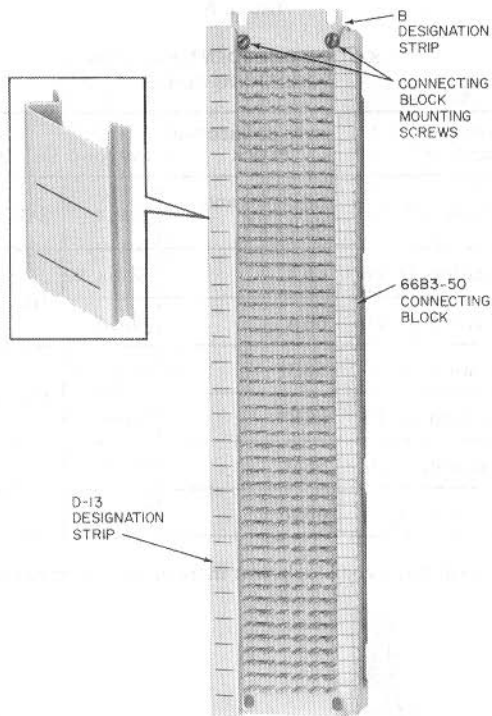

Fig. 18—Designation Strips
**6.01** The B designation strip is designed to mark 66B3-50 and 66B4-25 connecting blocks (Fig. 18).
**6.07** The D designation strips (Fig. 18) are the same as the C designation strips, except the D strips are furnished with imprinted lines. The lines occur every other row of terminals to indicate pairs (Table A).♦